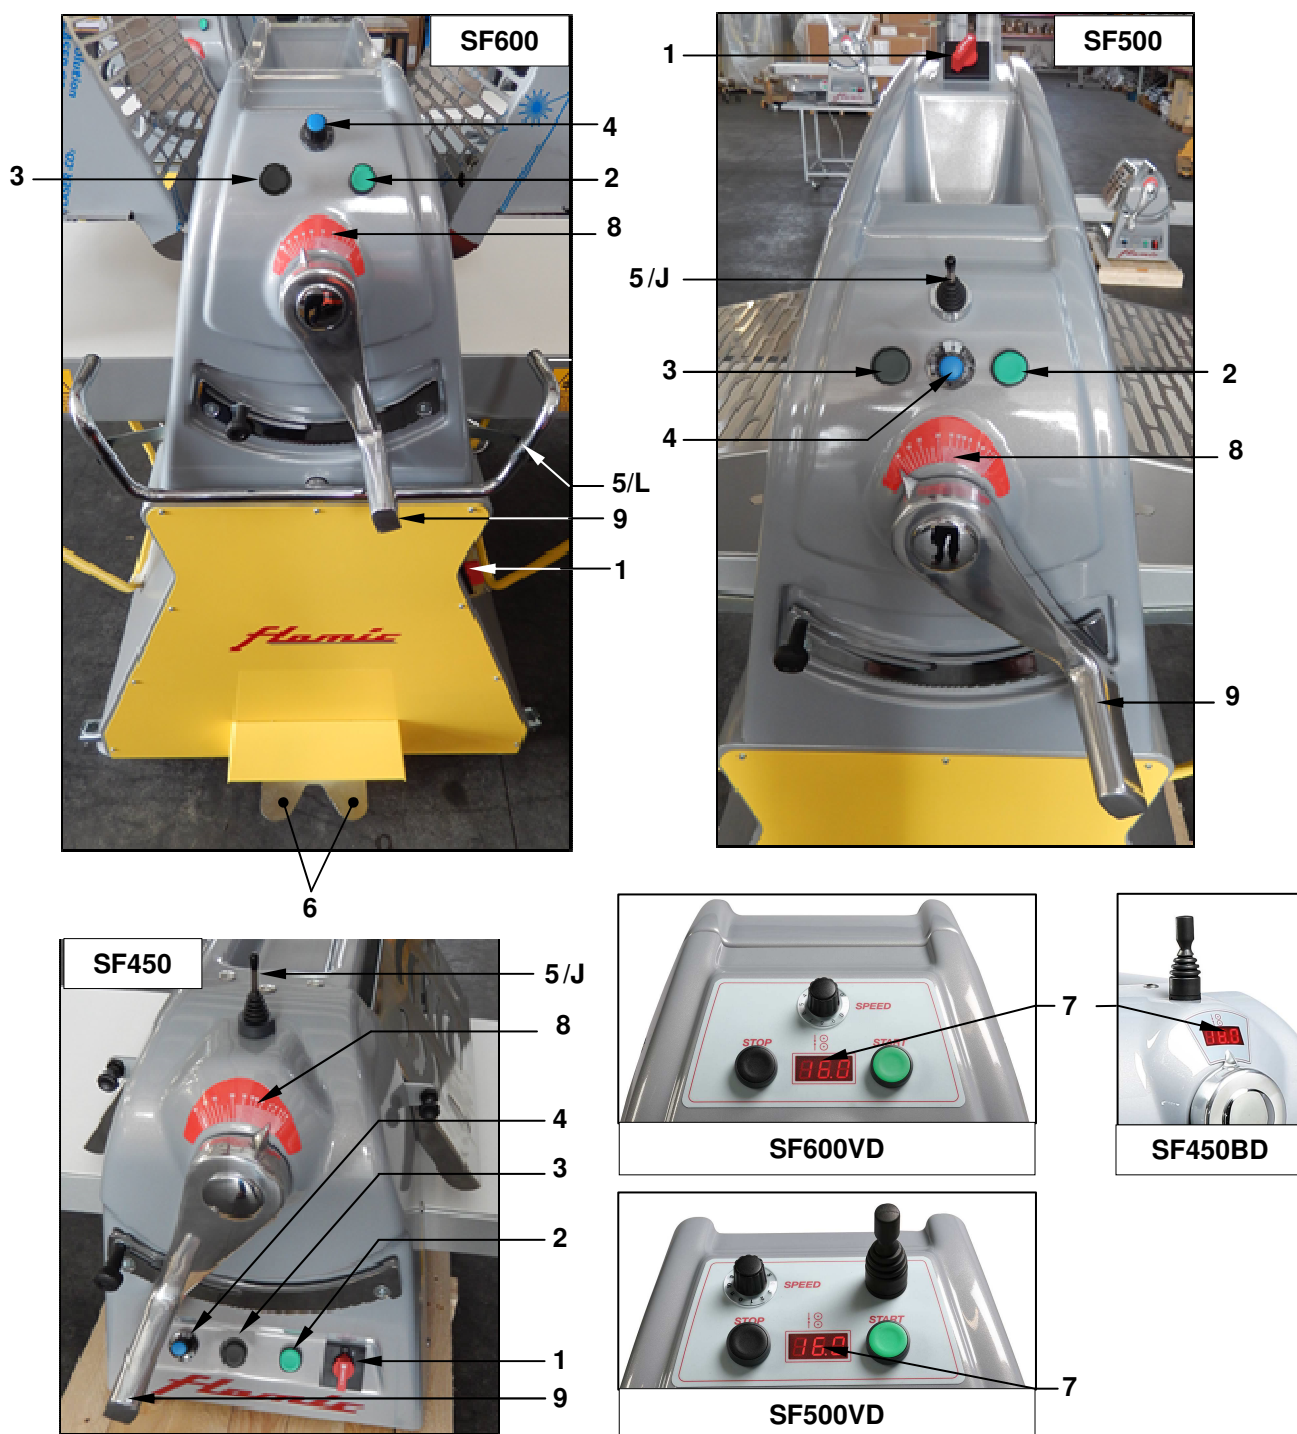

Figure 4 - Control devices
With reference to Figure 4, the machine's control devices are as follows:
The new versions of dough sheeters marked with the letter "D" in the machine code, are equipped with display ref.7 which replaces the graduated index ref.8 placed above the lever ref.9 and on which the thickness of the dough lamination is displayed (in Figure 4 some examples).